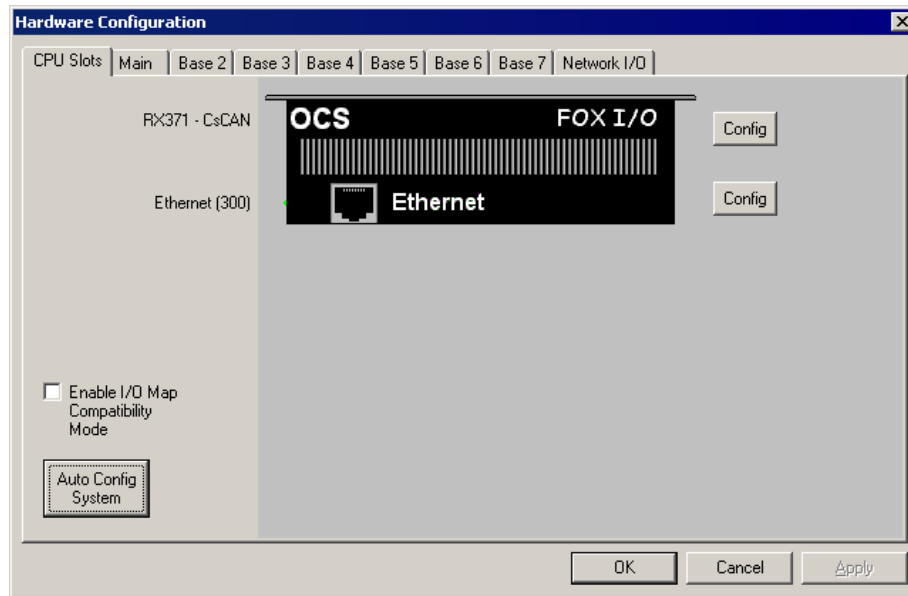

Figure 7.1: I/O Configuration Dialog
1. On the main Cscape screen, select the **Controller** menu and its **I/O Configure** sub-menu to open the I/O Configuration dialog (Figure 7.1)